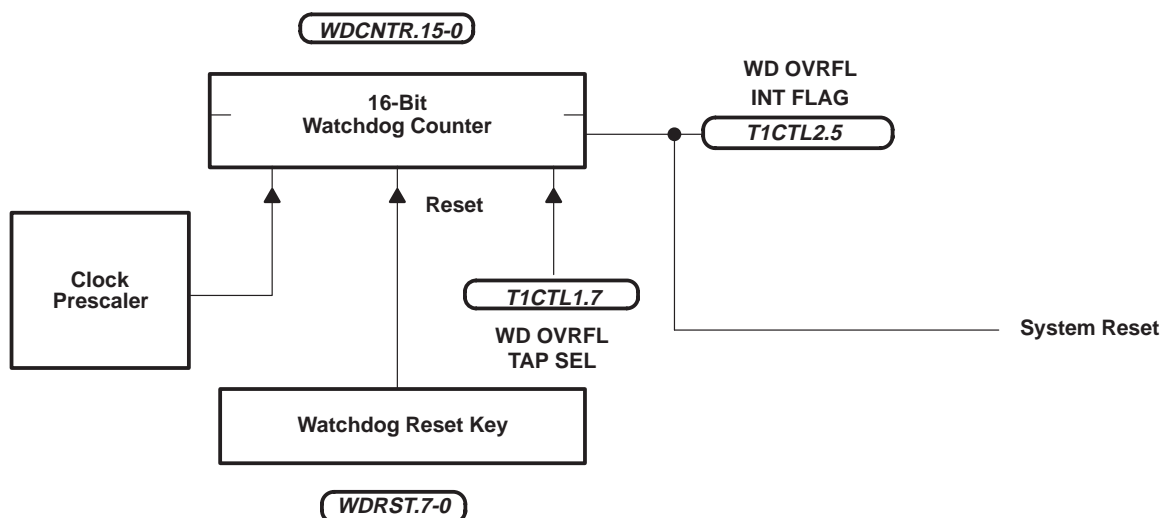

Figure 9. Hard Watchdog
- Hard watchdog configuration (see Figure 9) – for 'C75xB EPROM and mask-ROM devices